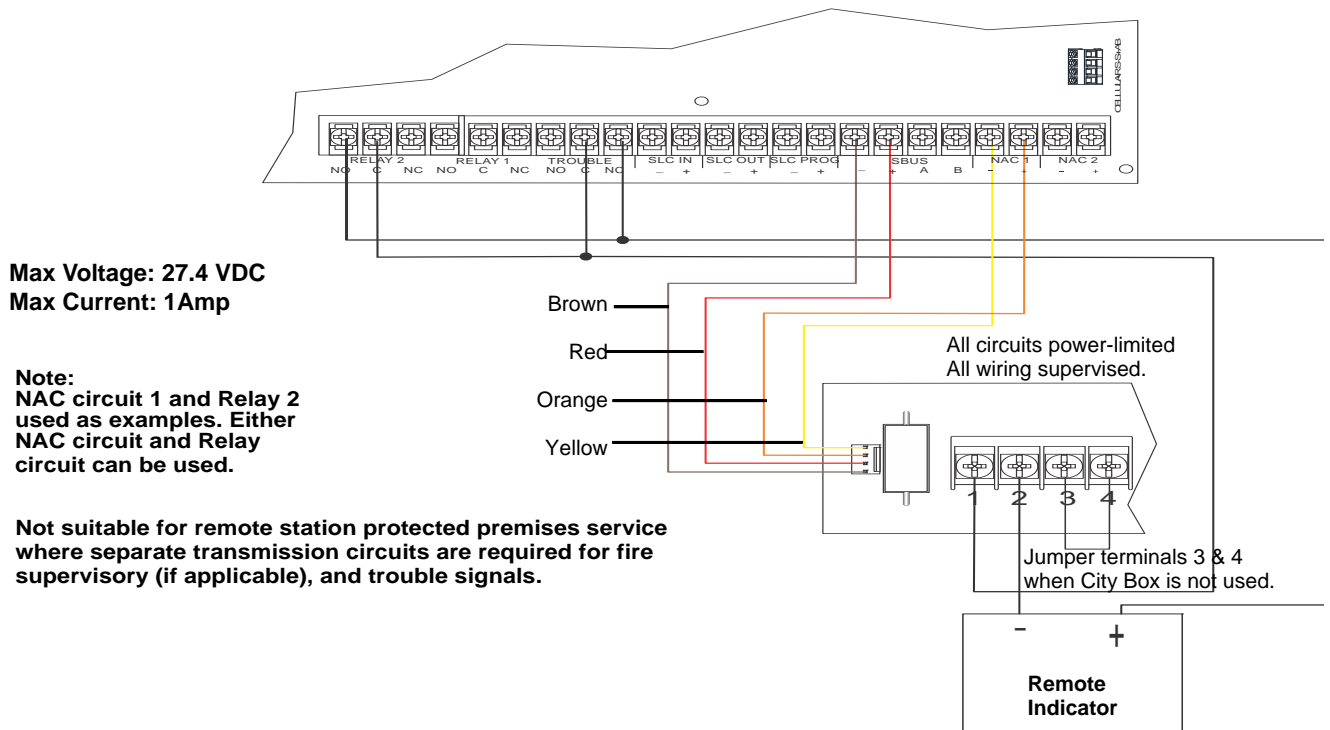

Figure 4.40 Polarity Reversal Connection Using the 5220 Module
2. Wire the 5220 to the control panel as shown in Figure 4.40. This drawing also shows how to connect the city box coil to terminals 3 and 4 on the 5220. Do not install an EOL resistor in the terminals of the NAC circuit used for this application.
2. Wire the 5220 to the control panel using the four-wire pigtail provided as shown in Figure 4.40. This diagram also shows how to connect the 5220 to the remote indicator. Do not install an EOL resistor in the terminals of the NAC circuit used for this application.